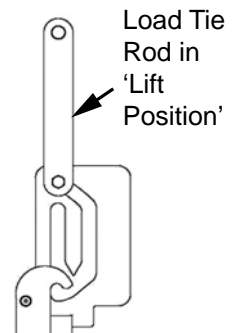

Fig. 3
- Move the load tie rod into the 'Lift' position (Fig. 3).